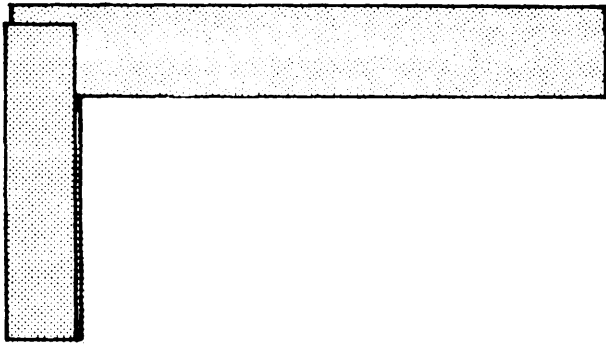

Figure 1-24.—Machinist's square.
**MACHINIST'S SQUARE.**—The most common type of machinist's square has a hardened steel blade securely attached to a beam. The steel blade is NOT graduated. (See fig. 1-24.) This instrument is very useful in checking right angles and in setting up work on shapers, milling machines, and drilling machines. The size of machinist's squares ranges from 1 1/2 to 36 inches in blade length. You should take the same care of machinist's squares, in storage and use, as you do with a micrometer.